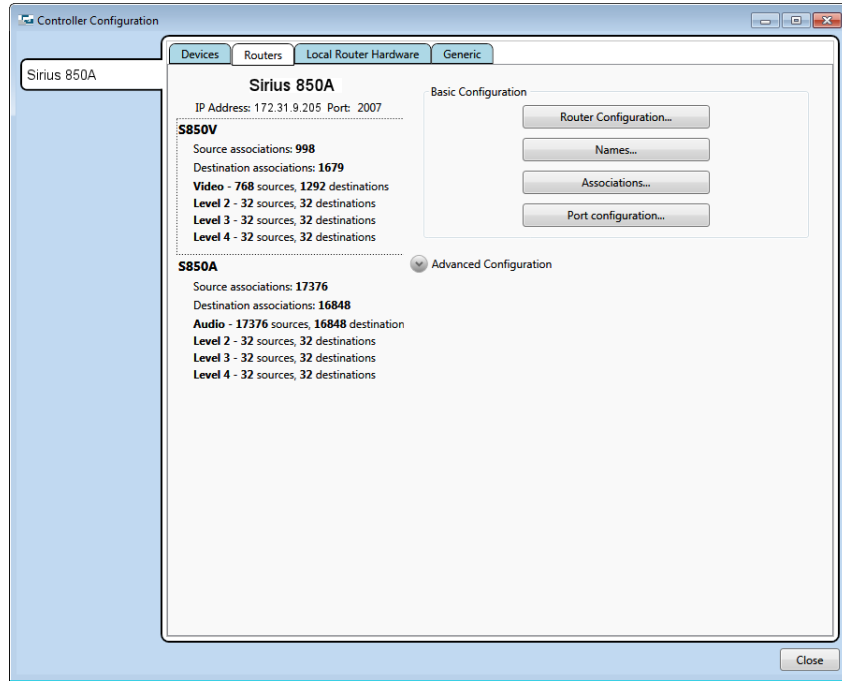

Fig 50. Router Configuration (Nucleus2 2464 Shown)
The Workbench configuration screens are used to view and edit the router control module configuration settings (see Fig 50.)
**Note:** In the example shown in Fig 50. the router control module is configured with a video matrix (S850V) and an audio matrix (S850A).